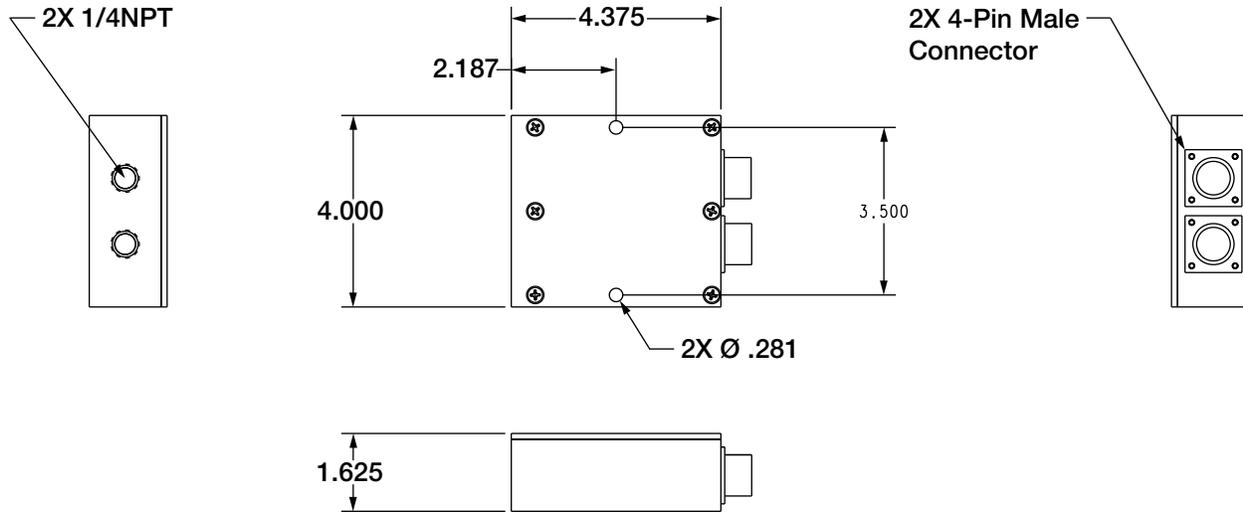

Figure 4-5. Transducer Mounting Example
Model PL9000-200 pressure transducers are fully assembled at the factory. Do not attempt to open these, as they are factory encapsulated, and breaking the seal voids warranty. Rice Lake Weighing Systems can supply push-on fittings for 1/4", 5/16, 3/8 and 1/2 inch air line, as well as metric sizes. The Model PL9000-200 assembly contains a dual element transducer for dual ported leveling valve suspensions. See Figure 4-5 on page 14 for specifications.
3. Mount the transducer using the two 9/32" (7 mm) diameter mounting holes in the case. Use 1/4" bolts (2) with flat washers (2) and nylock nuts or locking flange nuts (2). The installer may drill this size hole in the chassis or a cross-member and use a through-bolt and lock nut to mount the transducer, or the transducer may be mounted to a separate plate (min 1/4" thick) which picks up existing chassis bolt holes. Do not excessively over tighten any of the mounting bolts. Select a mounting location that is protected from road hazards, petrochemicals and moving machinery, and is still accessible for inspection and testing. See Figure 4-5.